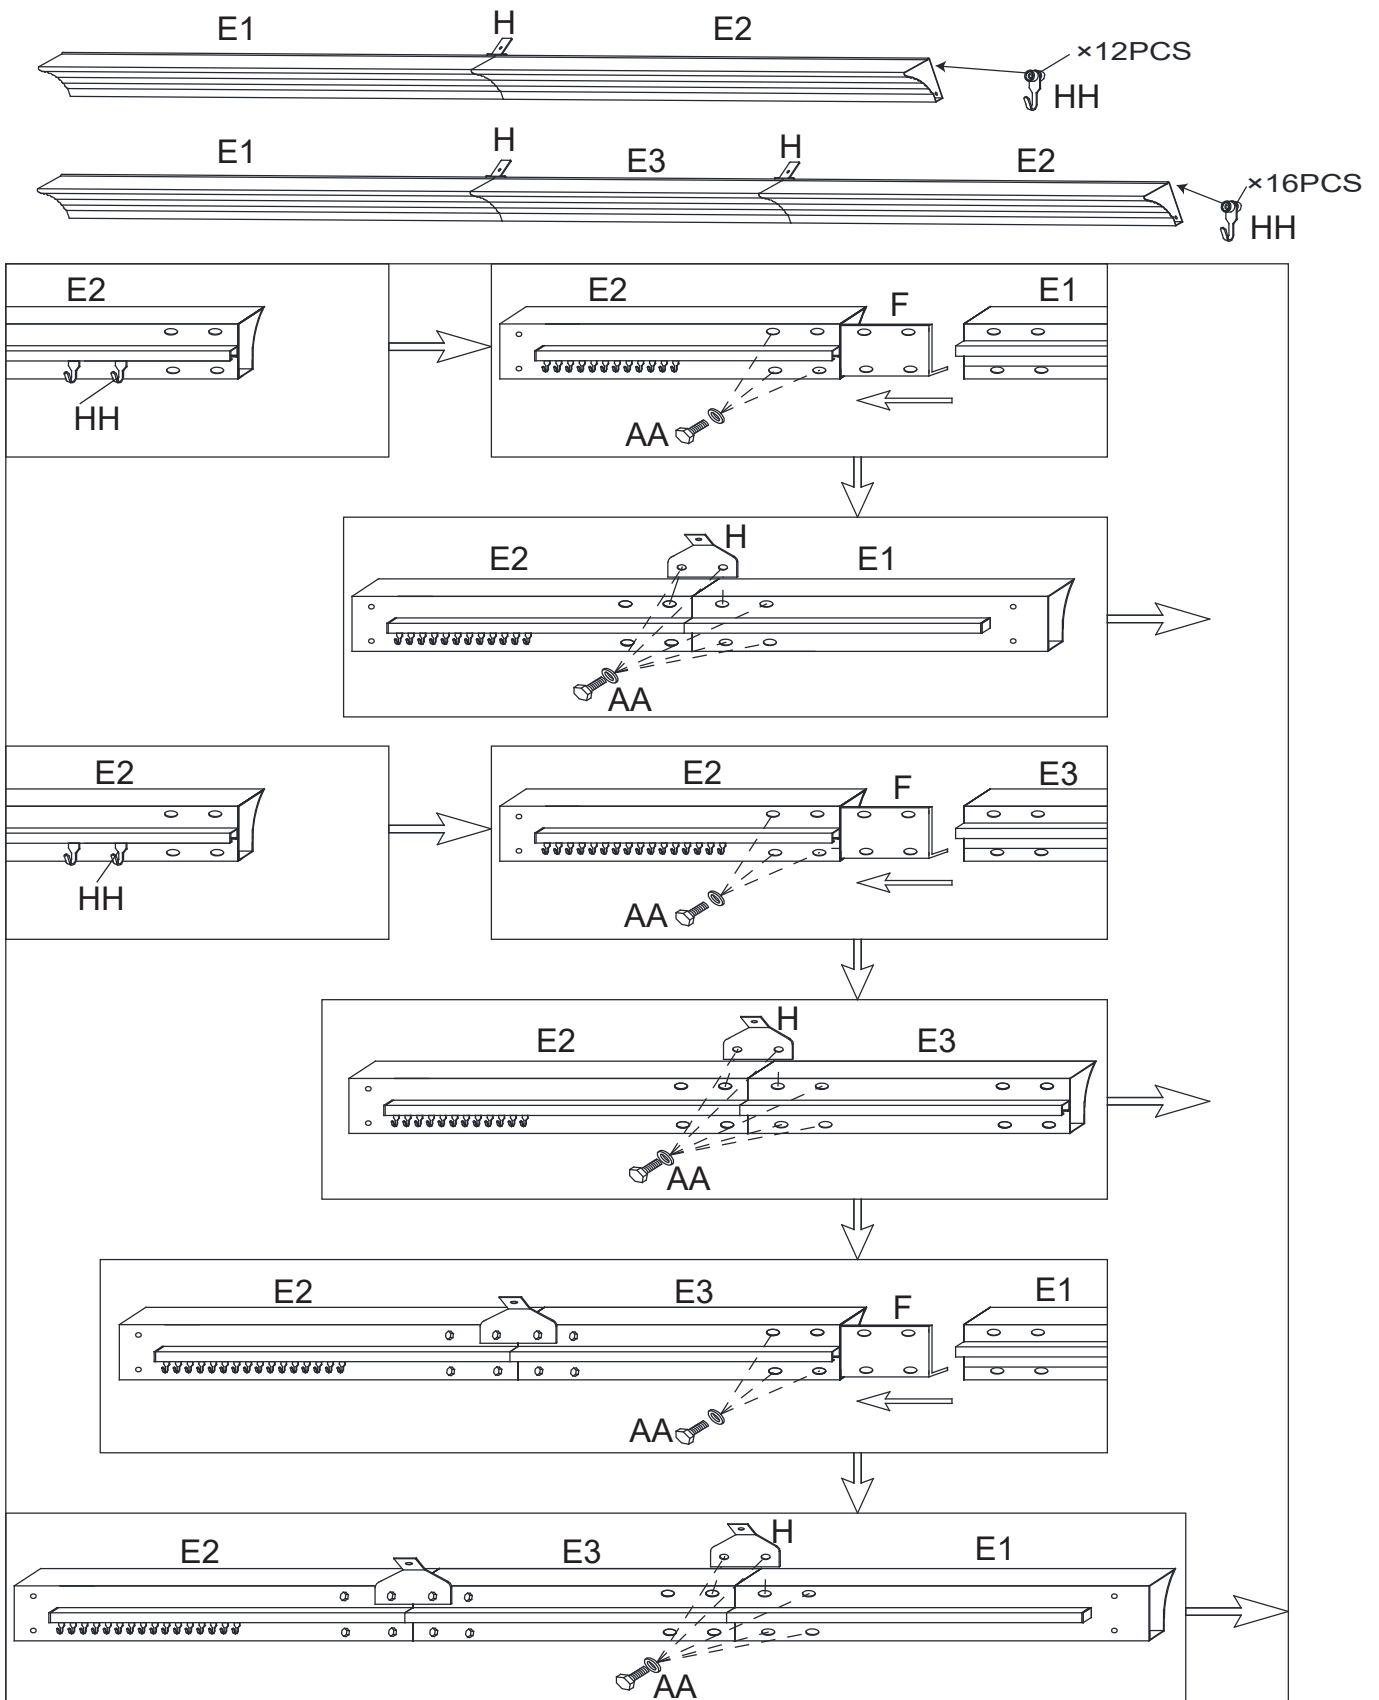

Fig 2
1-b. Insert the Hanger (HH) into the track of Right Lintel (E2). Insert the Connector (F) into Left Lintel (E1)/Right Lintel (E2), at the same time connect it to Left Lintel (E1)/Right Lintel (E2) by the Connector (H) with Bolt/Flat Washer(AA). Insert the Hanger (HH) into the track of Right Lintel (E2). Insert the Connector (F) into Left Lintel (E1)/Short Lintel (E3), at the same time connect it to Left Lintel (E1)/Short Lintel (E3) by the Connector (H) with Bolt/Flat Washer(AA). Insert the Connector (F) into Right Lintel (E2)/Short Lintel (E3), at the same time connect it to Right Lintel (E2)/Short Lintel (E3) by the Connector (H) with Bolt/Flat Washer(AA). See Fig.2.